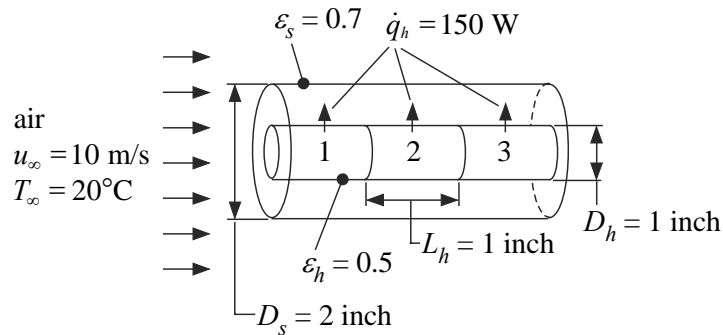

**Figure P10.5-10: Spherical cryogenic experiment in a cubical enclosure.**
10.5-10 Figure P10.5-10 illustrates (in cross-section) a spherical cryogenic experiment that is placed at the center of a cubical enclosure (a box).